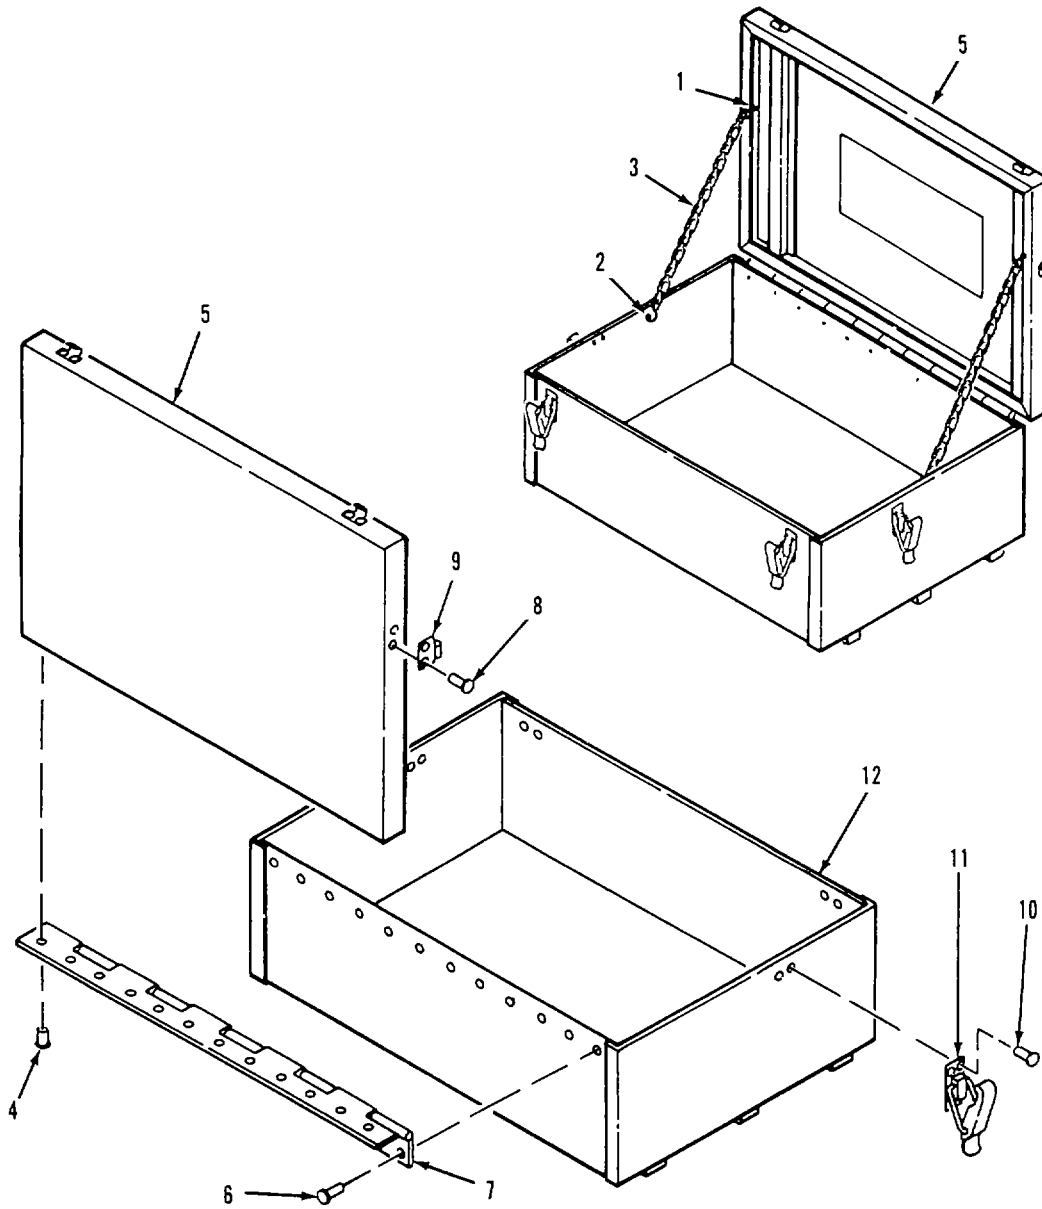

Figure 4-13. Storage Chest Disassembly.
a. Disassembly. Refer to figure 4-13.